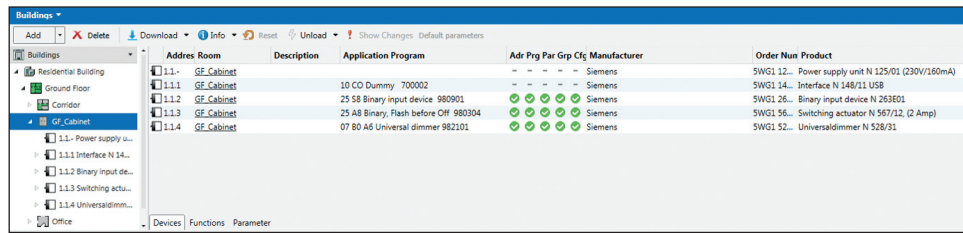

Figure 31. Building layout and devices
- Depicting the layout of the building and the devices in it (Fig. 31); defining the building structure and bus topology; defining the Individual Addresses of the devices